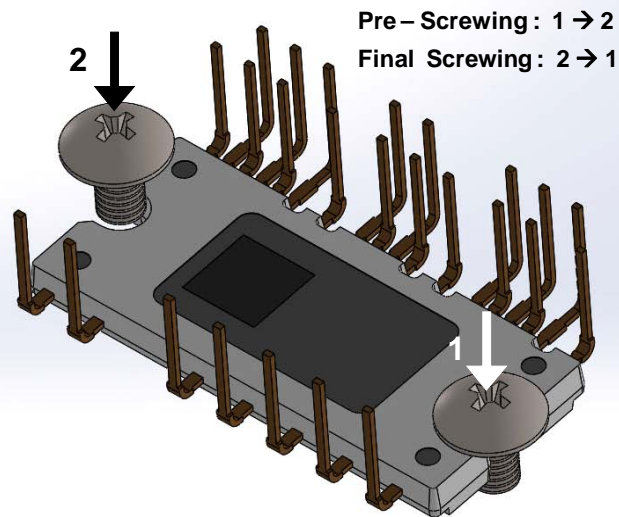

Figure 10. Mounting Screws Torque Order
9. Avoid one side tightening stress. Figure 10 shows the recommended torque order for mounting screws. Uneven mounting can cause of package to be damaged.